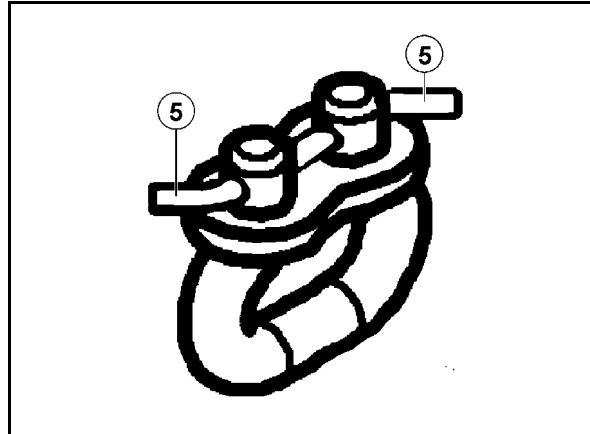

Fig. 106
1. Align the chains of the transport floor such that the chain connecting links (Fig. 106) are within the central and rear area of the cargo space.
3. Tighten the nut (2) to loosen the paw (1) of the chain tensioners beneath the machine.
4. Unscrew the counter nut (3) of the clamping screw (4).